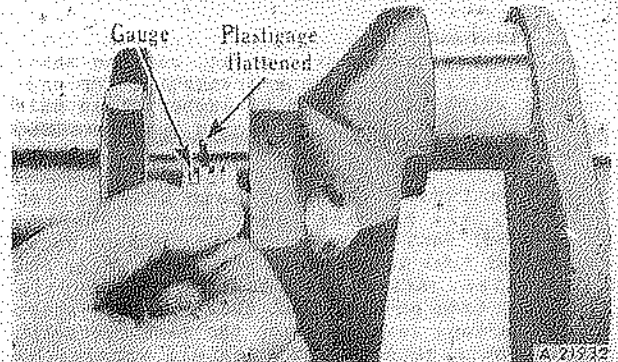

Fig. 49
- (e) To determine the bearing clearance, compare the width of the flattened plastigage at its widest point with the graduations on the envelope (Fig. 49). The number within the graduation on the envelope indicates the clearance in thousandths of an inch. NOTE: Do not turn crankshaft during the above procedure.